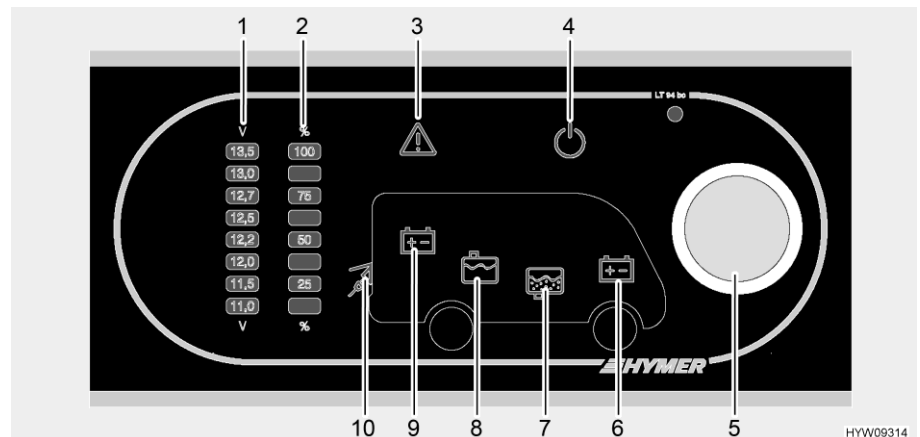

Fig. 105 Panel (LT 94)
The rotary knob (Fig. 105,5) switches the panel and the 12 V power supply to the living area on and off.
- Press the rotary knob (Fig. 105,5): The 12 V living area power supply is switched on. The 12 V indicator lamp (Fig. 105,4) lights up.
- Press the rotary knob (Fig. 105,5): The 12 V living area power supply is switched off. The 12 V indicator lamp (Fig. 105,4) goes off.
Use the rotary knob (Fig. 105,5) for reading the voltage of the living area battery as well as that of the starter battery. The voltage is displayed on the indicator scale for battery voltage (Fig. 105,1).
- Turn the rotary knob (Fig. 105,5) until the symbol for the desired battery lights up.
Living area battery voltage is displayed (Fig. 105,9)
Starter battery voltage is displayed (Fig. 105,6)
- Read the voltage from the indicator scale for battery voltage (Fig. 105,1).
Use the rotary knob (Fig. 105,5) for checking the fill level of the water tank or the waste water tank. The fill level is displayed on the indicator scale for the tank fill level (Fig. 105,2).
- Turn the rotary knob (Fig. 105,5) until the symbol for the desired tank lights up.
The level of the water tank is displayed (Fig. 105,8)
The level of the waste water tank is displayed (Fig. 105,7)
- Read the level from the indicator scale for the tank fill level (Fig. 105,2).
The Alarm warning light (Fig. 105,3) flashes if set limit values are exceeded or fallen below.
The Alarm warning light (Fig. 105,3) flashes if the battery voltage falls below 11 V. If the 12 V power supply is switched on, the relevant battery symbol (Fig. 105,6 or 9) also lights up and "11.0" starts flashing on the indicator scale for battery voltage (Fig. 105,1). Danger of total discharge.
The Alarm warning light (Fig. 105,3) starts to flash and the corresponding tank symbol (Fig. 105,7 or 8) lights up as soon as the water tank is empty or the waste water tank is full.
The 230 V indicator lamp (Fig. 105,10) illuminates whenever line voltage is available at the transformer/rectifier input.